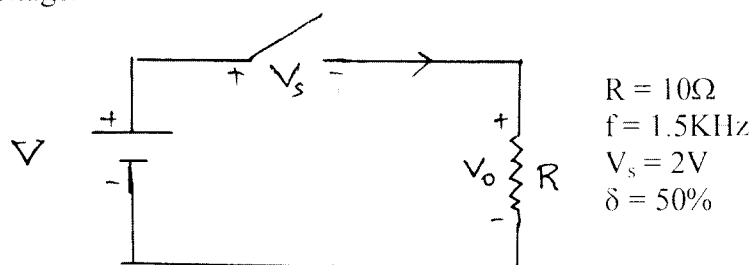

Fig Q7(c)
- c. In the chopper circuit shown in Fig Q7(c), the average output voltage is 109V. The voltage drop across chopper switch when it is ON is  $V_s = 2V$ . The load resistor  $R = 10\Omega$ ,  $f = 1.5KHz$  and duty cycle ratio  $\delta = 50\%$ . Calculate the i) DC input voltage to the chopper ii) RMS output voltage.